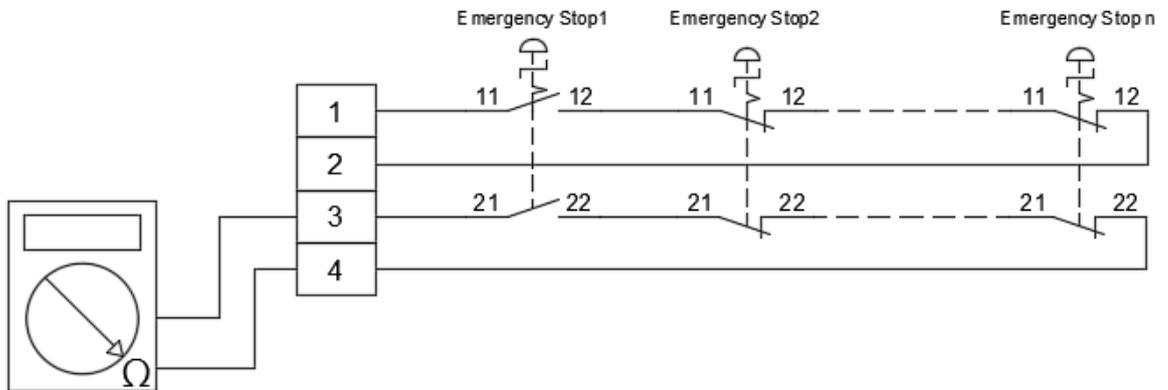

Figure 8.18 Press the emergency stop signal and measure Pin 3 and Pin 4
7. Measure Pin 3 and Pin 4 of the safety connector; the reading on the multimeter must be ∞ , as shown in Figure 8.18 below.